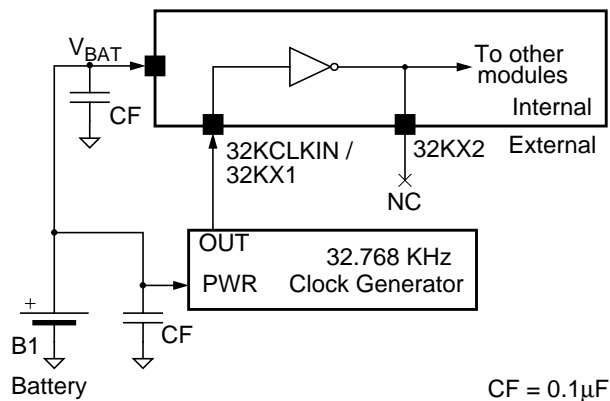

Figure 40. External Oscillator Connections
32.768 KHz can be applied from an external clock source, as shown in Figure 40.